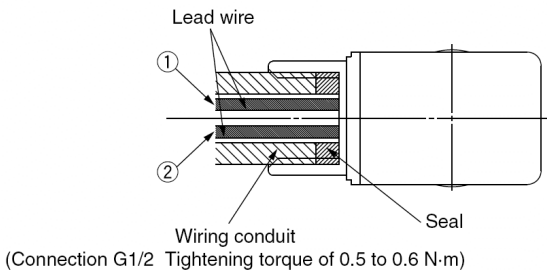

Figure 15
- Tighten conduit to torque shown in Figure 15.